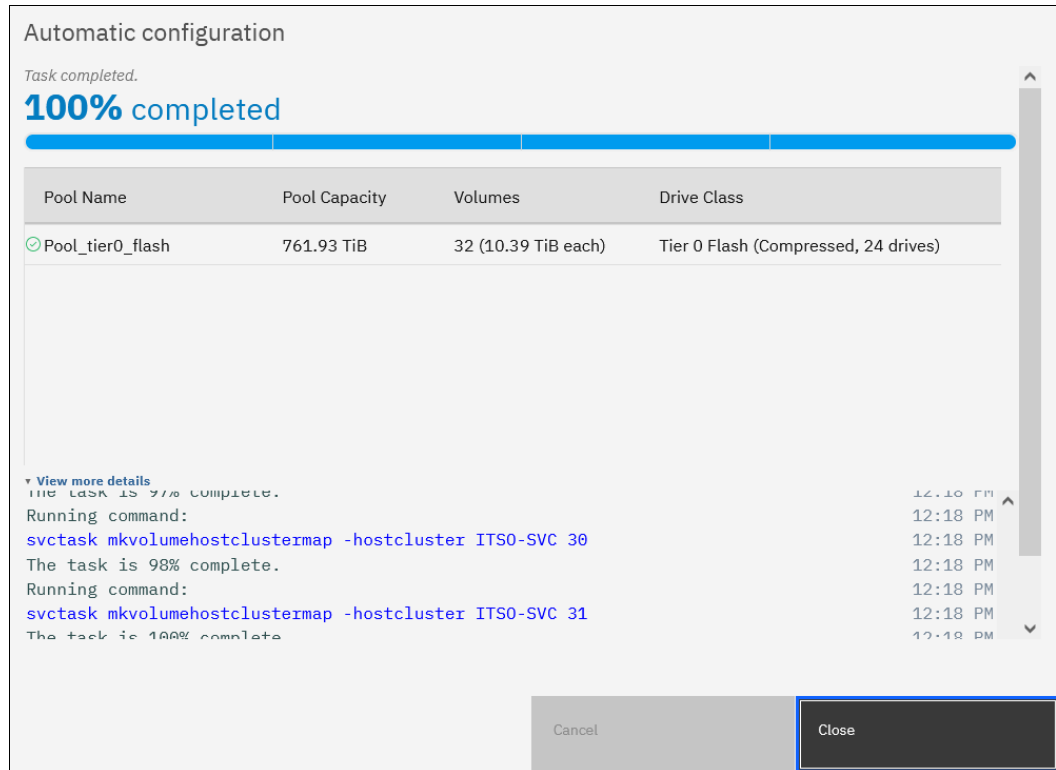

Figure 2-67 Automatic configuration running commands
- 9. When the Automatic Configuration for Virtualization wizard completes, you see the window that is shown in Figure 2-67. After clicking **Close**, you can proceed to the IBM SAN Volume Controller GUI and configure a new provisioned storage.